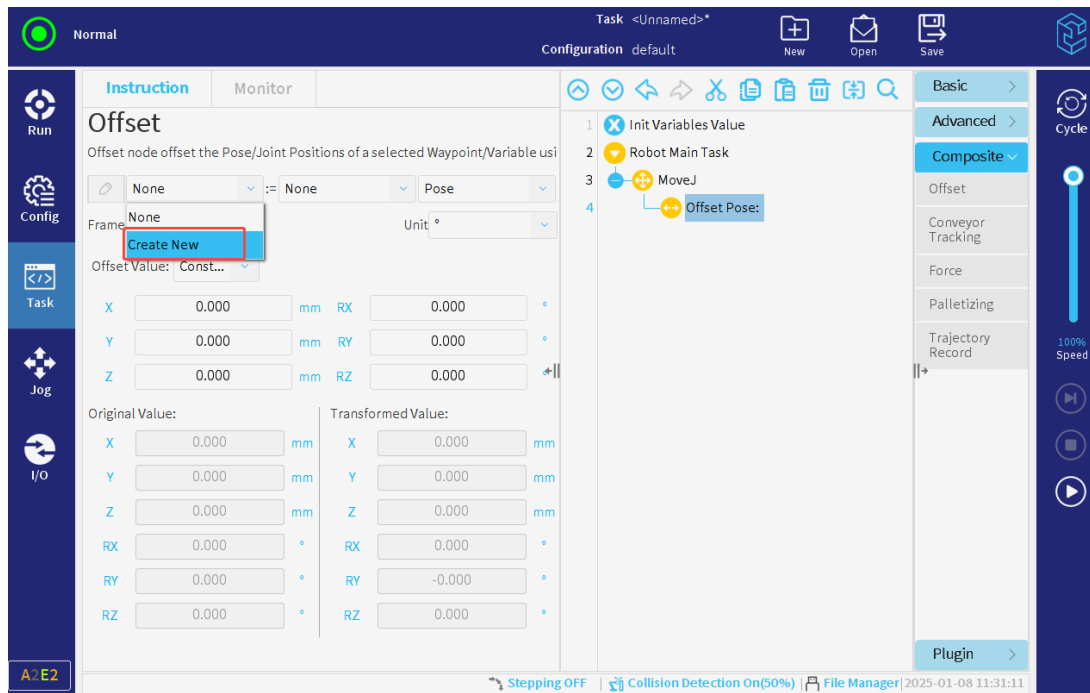

Figure 3-109 : Create A New Task Variable
- To create a new task, tap the first drop-down box and then select "Create New", as shown in **Figure 3-109**.